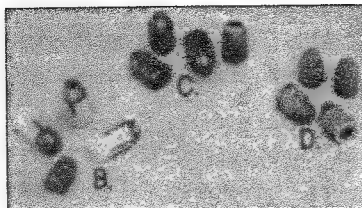

Figure 1
1. **CONICAL BULLETS**—such as the CVA Buckslayer™ Bullet, Buffalo Bullet, Maxi-Ball and others of this type provide superior accuracy in all CVA firearms as well as increased knock down power desired by hunters. These projectiles are best suited for use in fast twist rifling barrels which stabilize the bullet more rapidly. They will also yield excellent accuracy in the slower twist models. (Figure 1-D,C)
2. **SABOTED BULLETS**—Don't confuse the term "sabot" with "poly patch". Poly Patch is designed for use with round balls only, should be considered highly dangerous to use, and not recommended for use in CVA rifles. Modern sabots from various manufacturers have been tested and provide acceptable accuracy in CVA firearms when complying with the sabot manufacturer's recommendations for usage. Saboted bullets of 300 grains weight or less are required when using Pyrodex Pellets as a propellant. When shooting sabots, one patch cleaning between shots is recommended. (Figure 1-B)